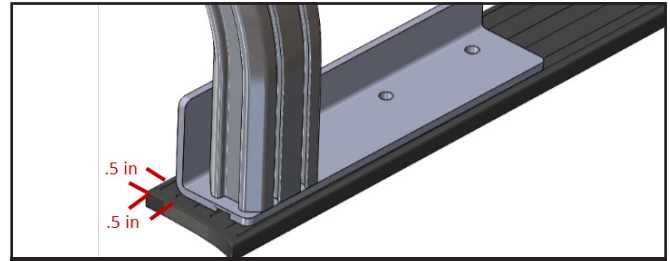

Figure 1: Front Hoop Location
- 1** Place the front hoop (NOTE: the rear hoop has "Putco" etched on it) on the bed caps as shown in Figure 1. Ensure that the gaps are consistent on both sides of the vehicle. Use permanent marker or punch to mark hole locations on bed cap.